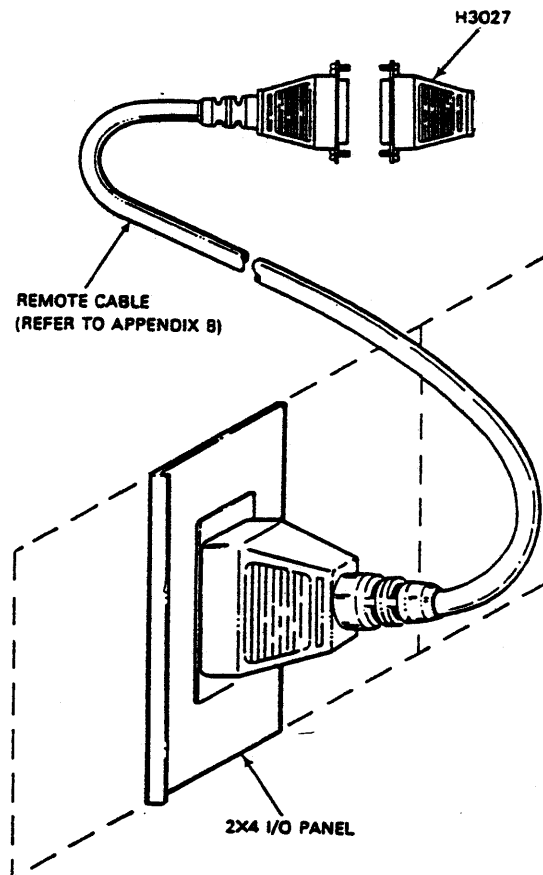

Figure 2-12 H3027 Loopback Connected to Remote End of T1 Cable
6. Remove the H3027 loopback Connector from the I/O Bulkhead. Connect the Remote T1 cable or BC18L-15 to the 2 X 4 I/O panel. (Refer Figure 2-12).
7. Install the H3027 loopback connector (Figure 2-12) to the opposite end of the Remote T1 cable or BC18L-15 and execute EVDAE diagnostic for 2 passes with event flag 3 set.